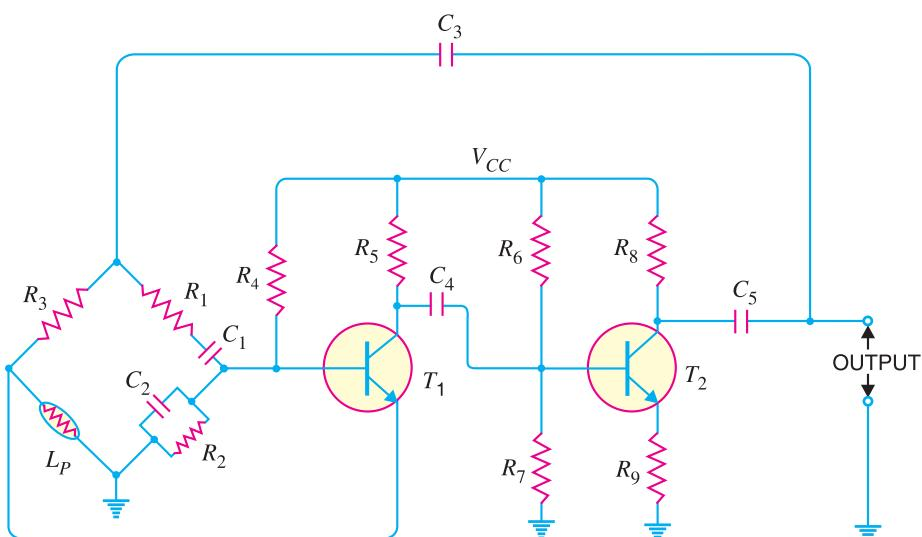

Fig. 14.18
The Wien-bridge oscillator is the standard oscillator circuit for all frequencies in the range of  $10 \text{ Hz}$  to about  $1 \text{ MHz}$ . It is the most frequently used type of audio oscillator as the output is free from circuit fluctuations and ambient temperature. Fig. 14.18 shows the circuit of Wien bridge oscillator. It is essentially a two-stage amplifier with  $R-C$  bridge circuit. The bridge circuit has the arms  $R_1C_1$ ,
**Example 14.9.** In the Wien bridge oscillator shown in Fig. 14.18,  $R_1 = R_2 = 220 \text{ k}\Omega$  and  $C_1 = C_2 = 250 \text{ pF}$ . Determine the frequency of oscillations.